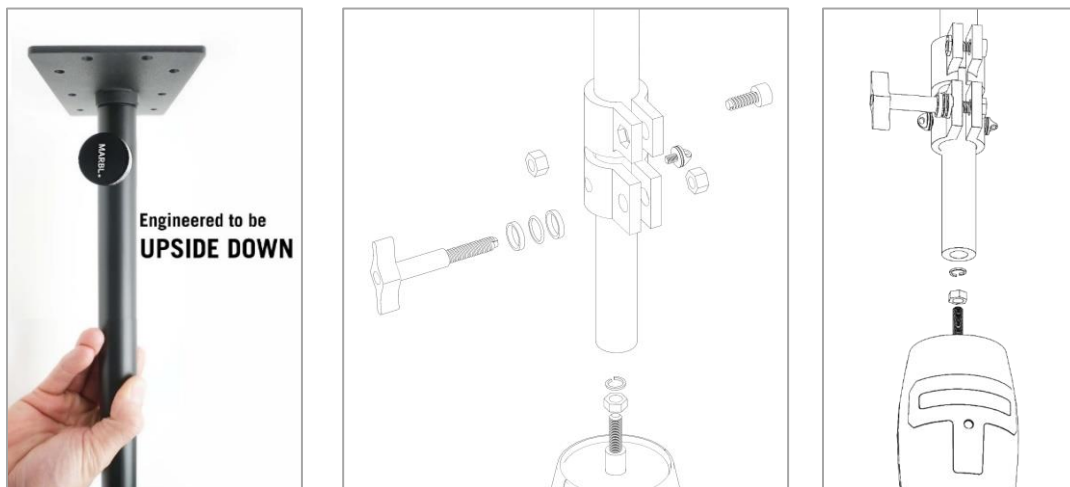

Figure 11: Installation of Down Rod Collar to Telescoping Down Rod and Mounting of ORBIT to Down Rod
3. Collapse or extend to the desired length and tighten the screw on the **Down Rod Collar** and mount the **Telescoping Down Rod** to the **Ceiling Plate** until it is flush and tighten with the included twist knob. Ensure that the knob screw is above the notch on the baby pin coming out of the **Ceiling Plate**. Then give a light tug on the downrod assembly to ensure that you have fully fastened it. See Figure 11 below.